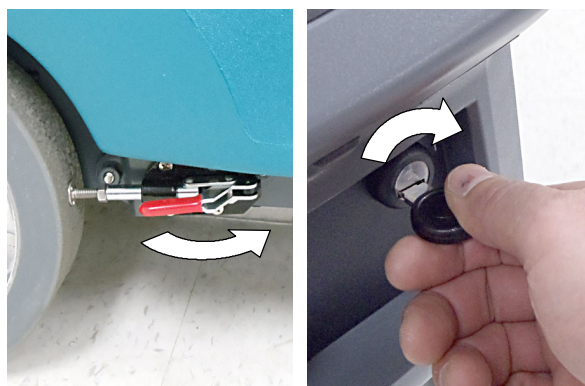

FIG. 16
2. Release the parking brake lever if equipped (Figure 16)
3. Turn the key to the on (I) position (Figure 16).